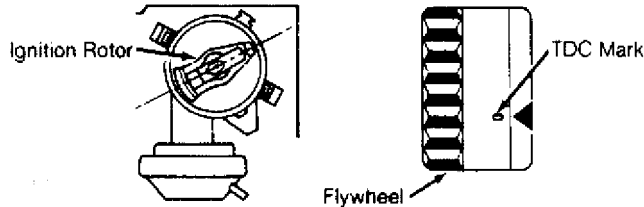

Fig. 7: Aligning Ignition Rotor
1) Align flywheel/flex plate "O" mark with pointer. This is TDC. Remove distributor cap and check position of ignition rotor. Rotate intermediate shaft and position rotor at No. one cylinder mark on housing. See Fig. 7.